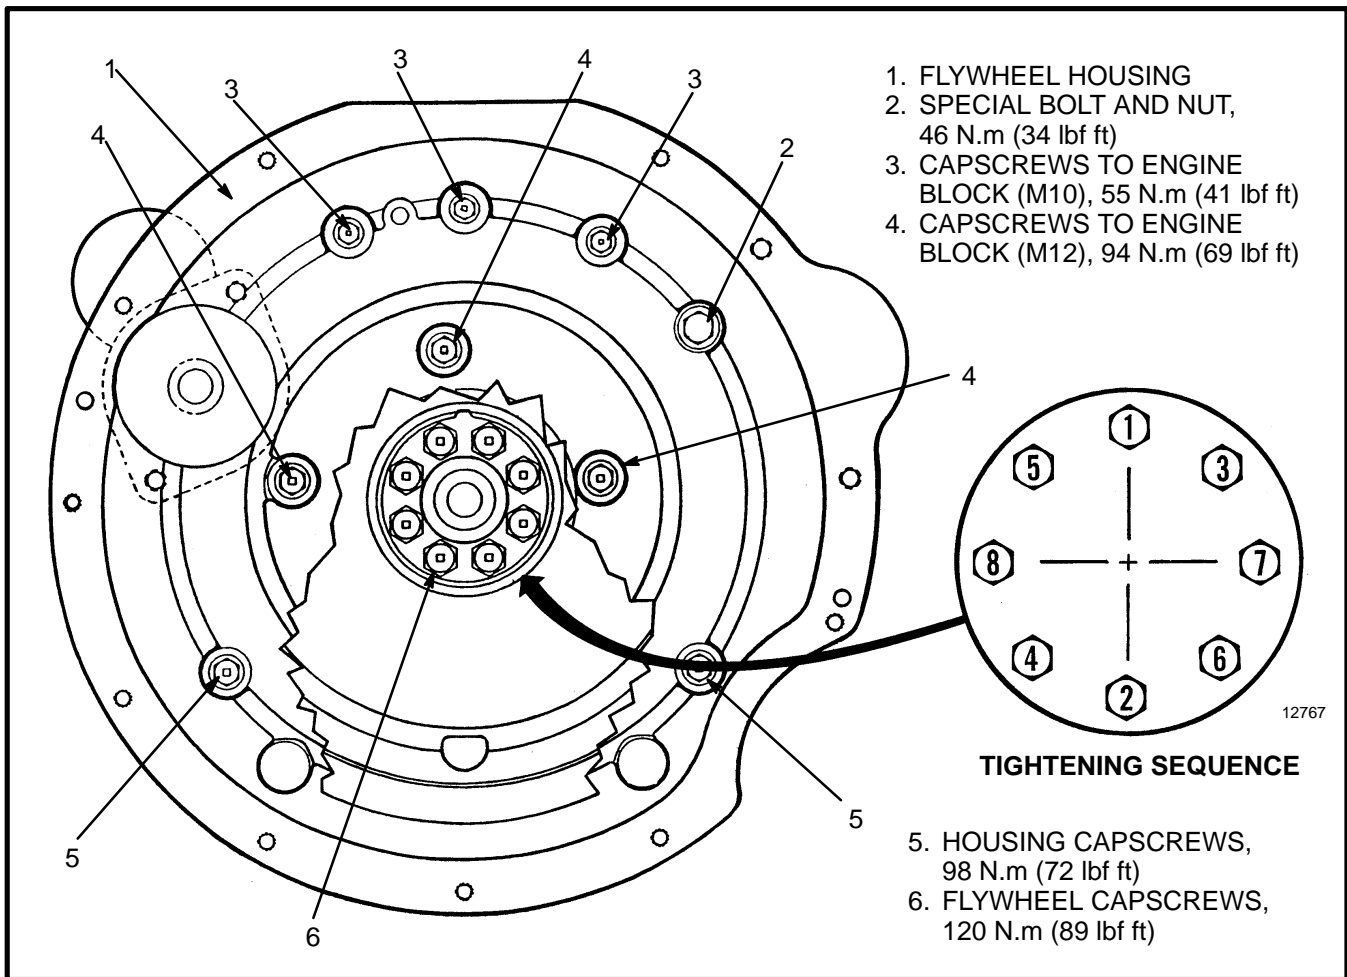
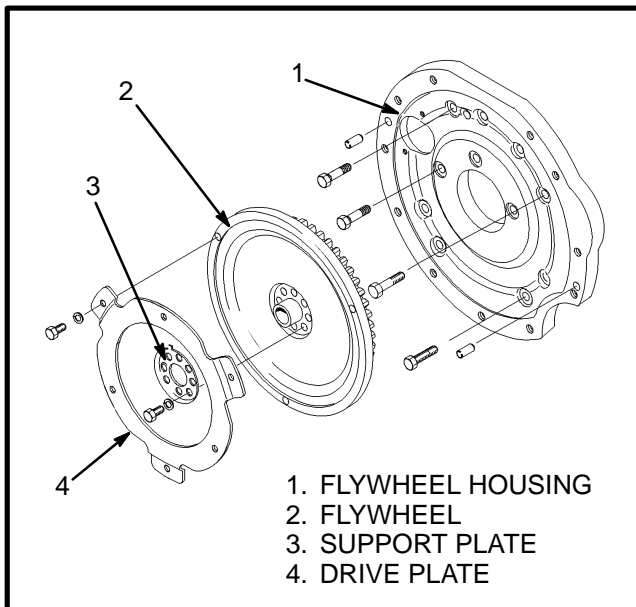

FIGURE 41. FLYWHEEL AND HOUSING, H2.00-3.20XM (H40-65XM)
FIGURE 42. FLYWHEEL AND HOUSING, H2.00-3.20XM (H40-65XM)
(See FIGURE 41. and FIGURE 42.)
- a. If the flywheel housing was removed, install it on the engine. Install the capscrews and bolt. Tighten the special bolt (2) and nut first. Tighten the nut to 46 N.m (34 lbf ft). Tighten the other capscrews as shown in FIGURE 41.
then install the cap screws for the flywheel. Tighten the cap screws to 120 N.m (89 lbf ft) as shown in the sequence in FIGURE 41.